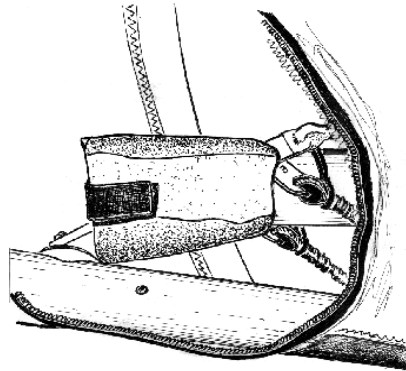

Fig. 17
2.2.11. Check all wires for twisted thimbles or tangs (Fig. 17).